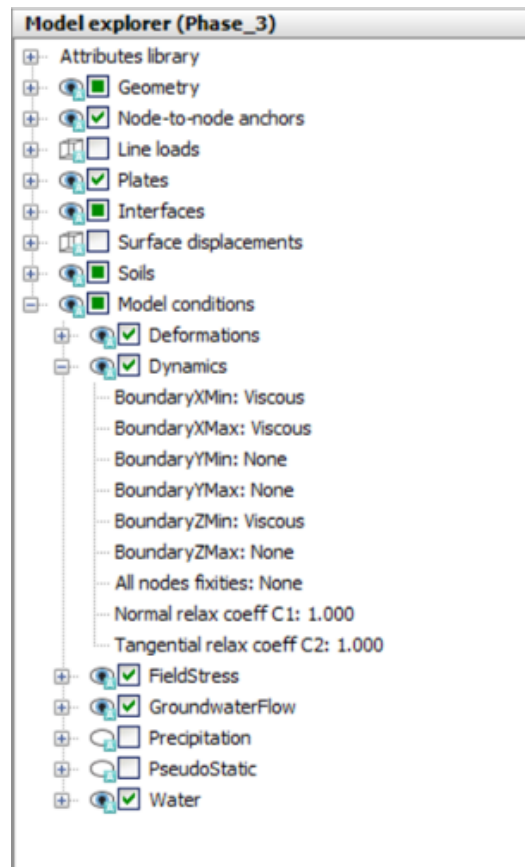

Figure 9–9: Boundary conditions for dynamics calculations (Phase_3)
- 6 Expand the **Dynamics** subtree. By default the boundary conditions in the x directions are set to viscous. Select the **None** option for the boundaries in the y direction. Set the boundary Zmin to **Viscous** (See Figure 9–9 \(p. 171\)).